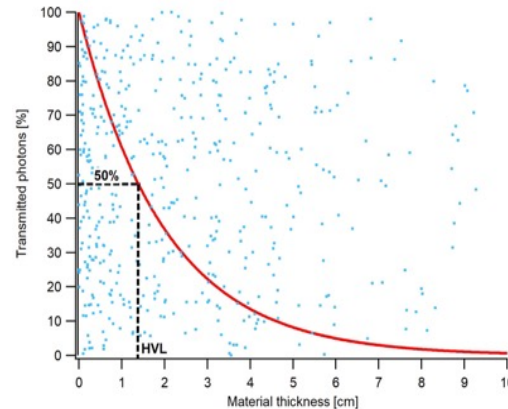

FIGURE 12
- / The HVL of an X-ray beam is the thickness of absorbing material that is needed to reduce the beam intensity by half of its initial value (Fig. 12).